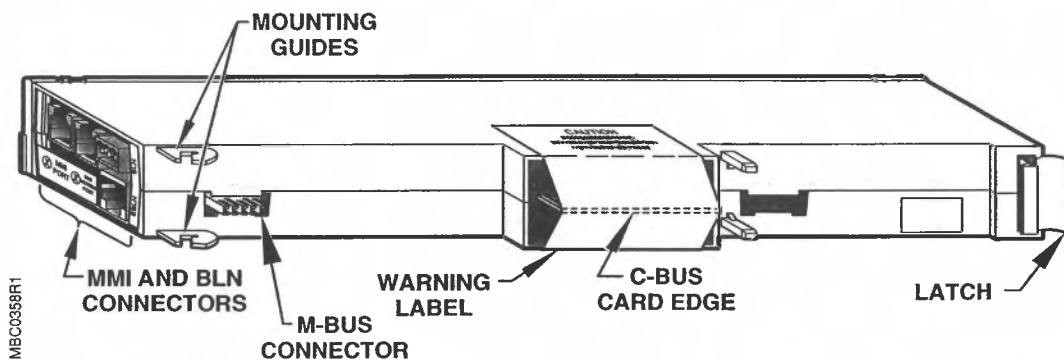

Figure 4. Rear View of the Power Open Processor.
5. If there is a warning label over the C-Bus card on the back of the Power Open Processor/Open Processor, remove it (see Figure 4).
6. Remove the protective cap from the C-Bus card edge (see Figure 4).
- a. *Open Processor/Protocol 2*; plug the ALN/BLN connector into the corresponding port on the right side labeled BLN + – S (see Figure 4). The screws for the connector should be pointing down.
7. If there is a warning label over the C-Bus card on the back of the Power Open Processor/Open Processor, remove it (see Figure 4).
8. Remove the protective cap from the C-Bus card edge (see Figure 4).